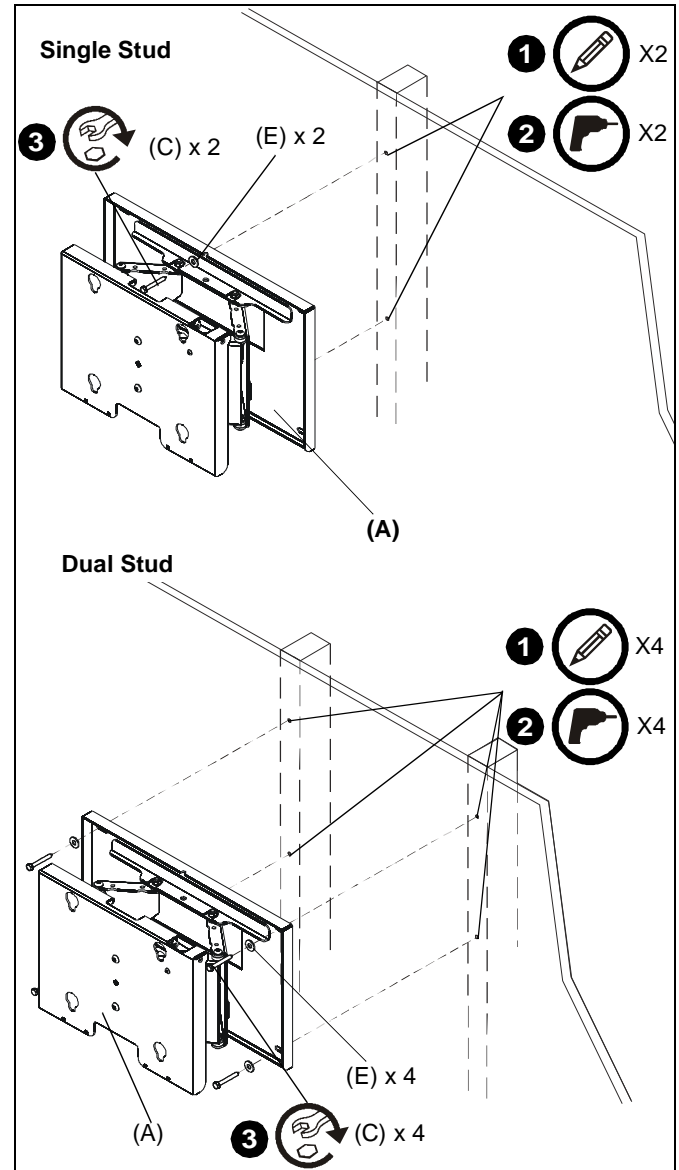

Figure 1
1. Using swing arm tilt mount (A) as a template, mark two or four holes at desired mounting location. (See Figure 1)
2. Drill two or four 7/32" holes at marked locations. (See Figure 1)
3. Install two or four 5/16 x 2 1/2" hex head lag bolts (C) through two or four 5/16" washers (E), swing arm tilt mount (A) and into drilled holes on wall. (See Figure 1)